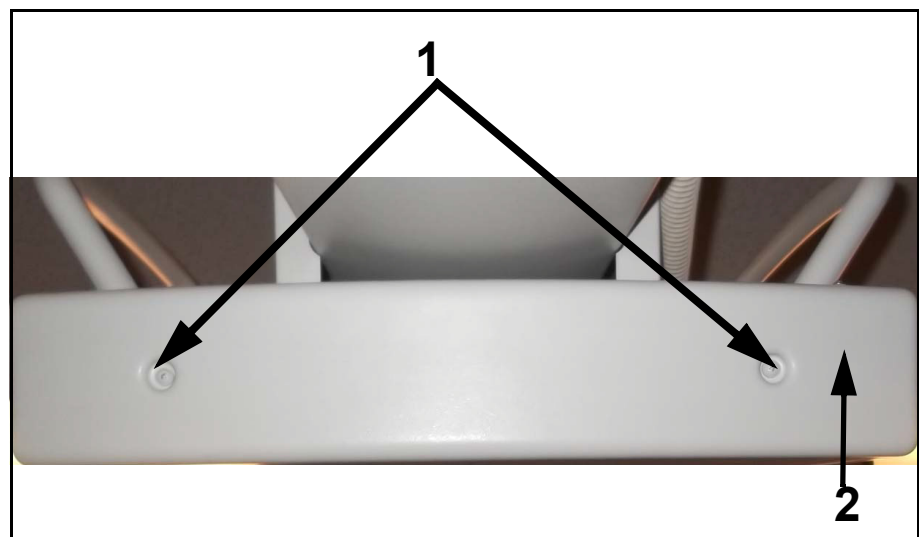

Figure E-22. Bottom Cover Screws
- 24** Reinstall bottom cover (1 in Figure E-22) with mounting screws (1).